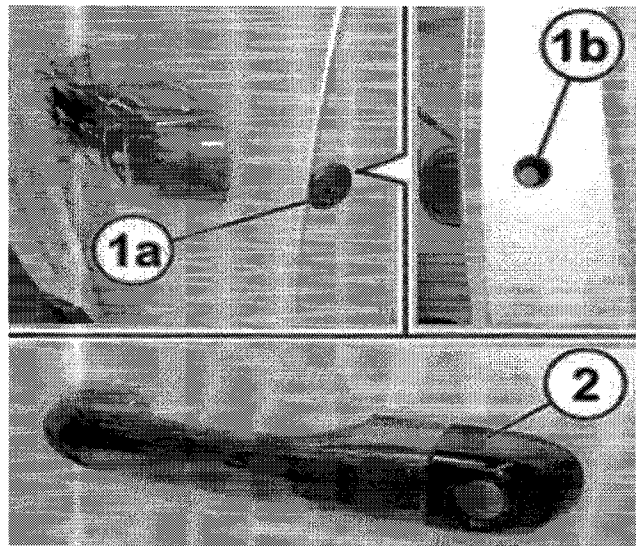

Fig. 1 Driver Door Handle
1. Remove the driver's side protective plug (Fig. 1).
- Using a Torx socket loosen the fixing screw (Fig. 1).